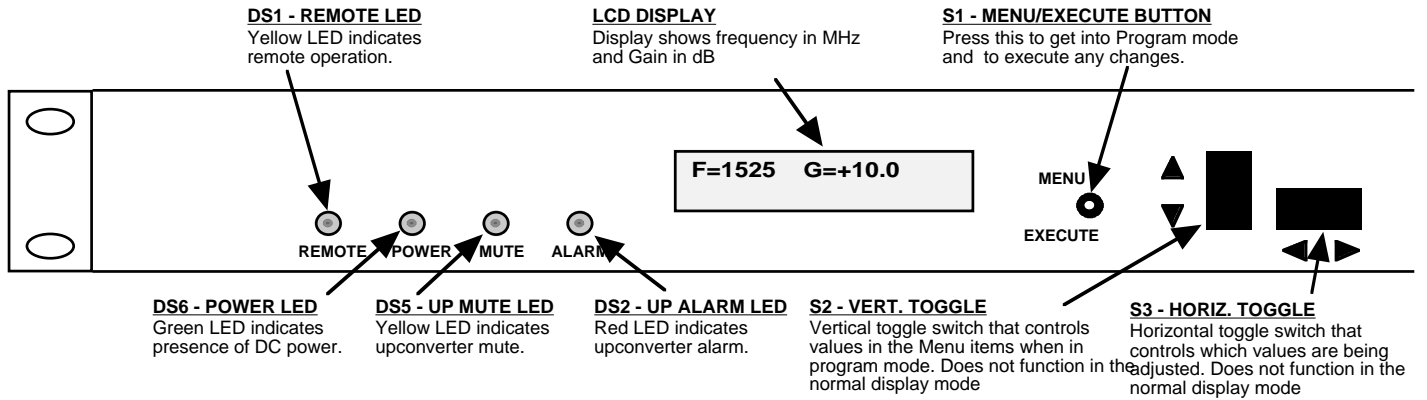

FIGURE 2.2 2015-05 Front Panel Controls and Indicators
7. Be sure DS6 (green, DC Power) is on and DS2 (red, Alarm) is off (Figure 2.2).
Alarm indications appear on the LEDs (see figure 2.2).